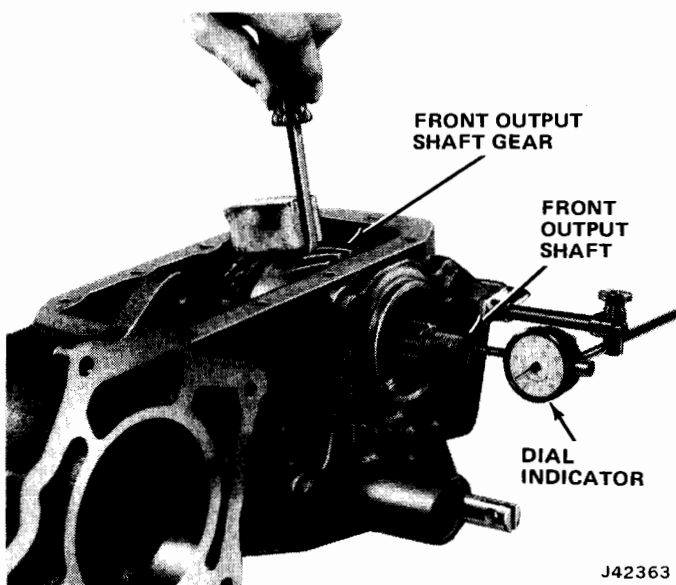

Fig. 8-14. Checking Front Output Shaft End Play
(6) Compress ball and spring and install front output shaft rail part way in case.
(7) Install front output shaft shift fork with setscrew off at facing front of case and slide shift rail through shift fork.
(8) Align setscrew holes in fork and rail and install setscrew. Tighten setscrew to 14 foot-pounds torque.
(9) Install front output shaft front bearing, bearing spacer, front output shaft sliding gear, and front output shaft gear. Be sure shift fork groove in sliding gear faces rear of case.
(10) Install front output shaft through gears, spacer, and bearing.
(11) Support case on wood blocks and drive front output shaft into front housing using brass drift and hammer. Be sure bearing is seated against shoulder on front output shaft.
(12) Install front output shaft rear bearing cup using wood block and hammer.
(13) Install rear bearing, cover plate, and shims. Tighten cover plate bolts to 30 foot-pounds torque.
(14) Check front output shaft end play as follows (fig. 8-14):